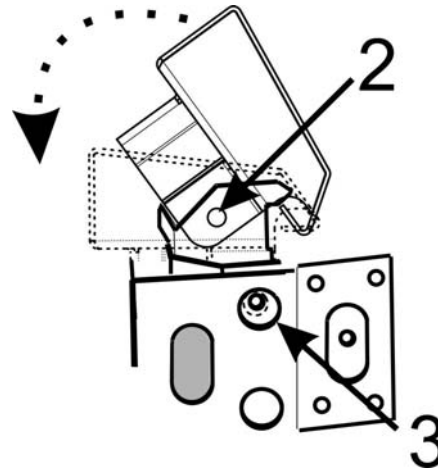

Figure 6: Island Trim placement 2
11. Rotate the Island Trim into position where the Island Trim side mounting hole 2 is visible through hole 3 on both sides of the range(see Figure 6: Island Trim placement 2).